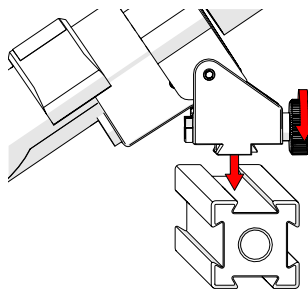

Fig. 198 - Mount on frame bar
1. Loosen the battery powered optical guide knob and mount the guide to the frame bar (Fig. 198).